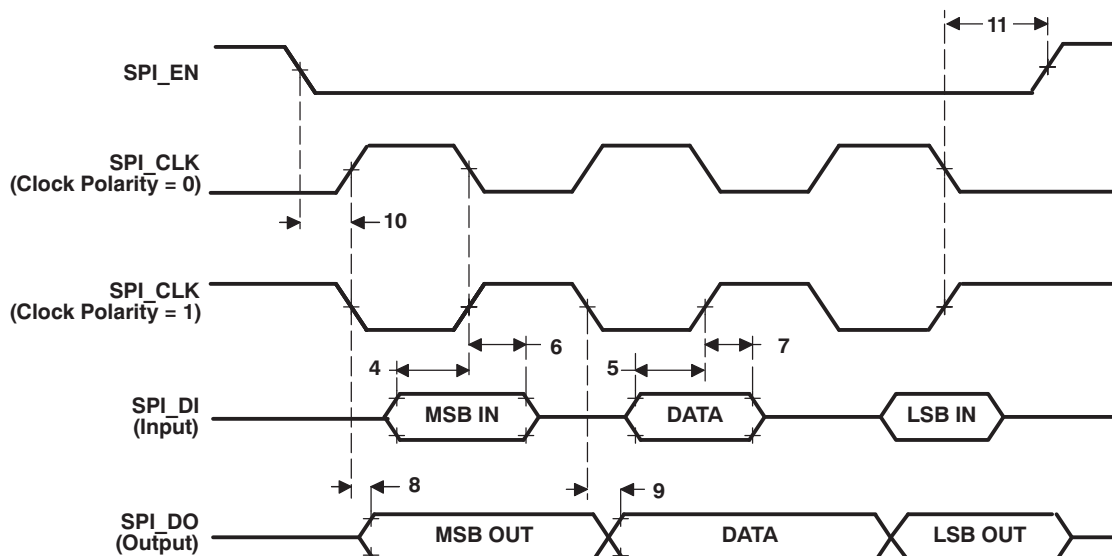

**Figure 5-37. SPI Master Mode External Timing (Clock Phase = 0)**
**Table 5-29. Timing Requirements for SPI Master Mode [Clock Phase = 0] (1)(see Figure 5-37)**
(1) P = 1/SYSCLOCK2 in nanoseconds (ns). For example, if the SYSCLOCK2 frequency is 135 MHz, use P = 7.41 ns. See Section 3.5, Device Clocking, for more information on the supported clock configurations of the DM355.
**Table 5-30. Switching Characteristics Over Recommended Operating Conditions for SPI Master Mode [Clock Phase = 0] (see Figure 5-37)**